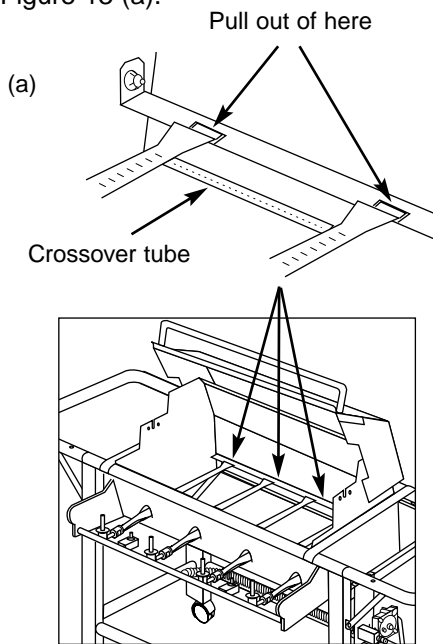

Figure 13
9. Slide the burner assembly from each Heat Zone. The left and right burners are connected by the Crossover tube. Figure 13 (a).